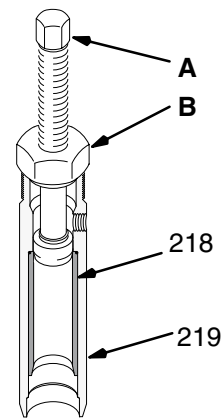

Fig. 26
9. Screw the large nut (B) of the tool into the top of the cylinder (19). Screw down the rod (A) to push the sleeve out. Remove the tool. See Fig. 26.